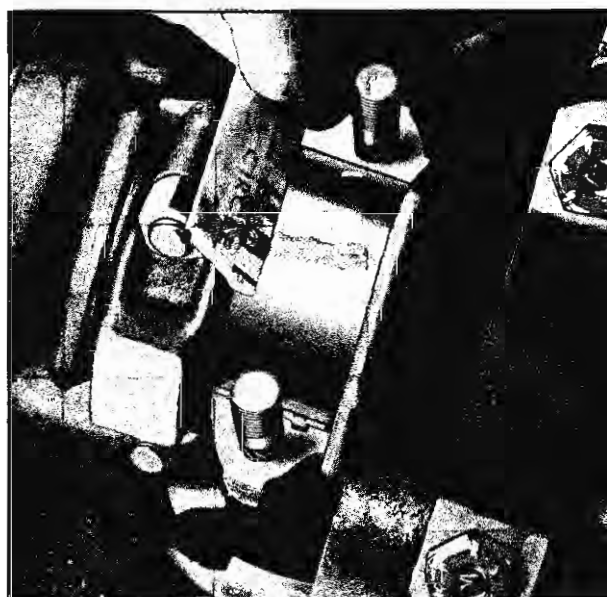

Fig. 98—Measuring Plastigage
5. Remove the bearing cap and without removing the Plastigage, check its width at the widest point with Plastigage scale (fig. 98).